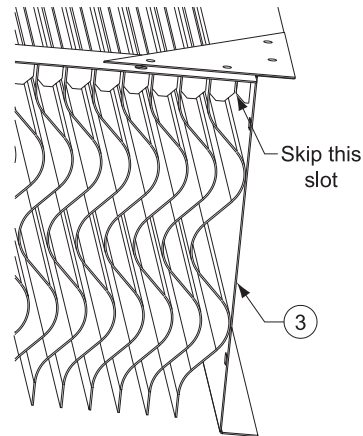

Figure 5
3. With the assembled frame placed on a flat, horizontal surface and the mounting flanges contacting the flat surface, the profiles are now ready to be inserted. Place the first profile in the second retainer slot with the body of the profile against the bottom right side panel as shown in Figure 5. Continue installing all other profiles.
4. Using the $\frac{1}{4}$ " x $\frac{5}{8}$ " screws provided, mount the profile retainers to the assembly. Start at either end and capture one profile in each slot with the exception of the right side where you started. You will skip one slot at the end as shown in Figure 5.